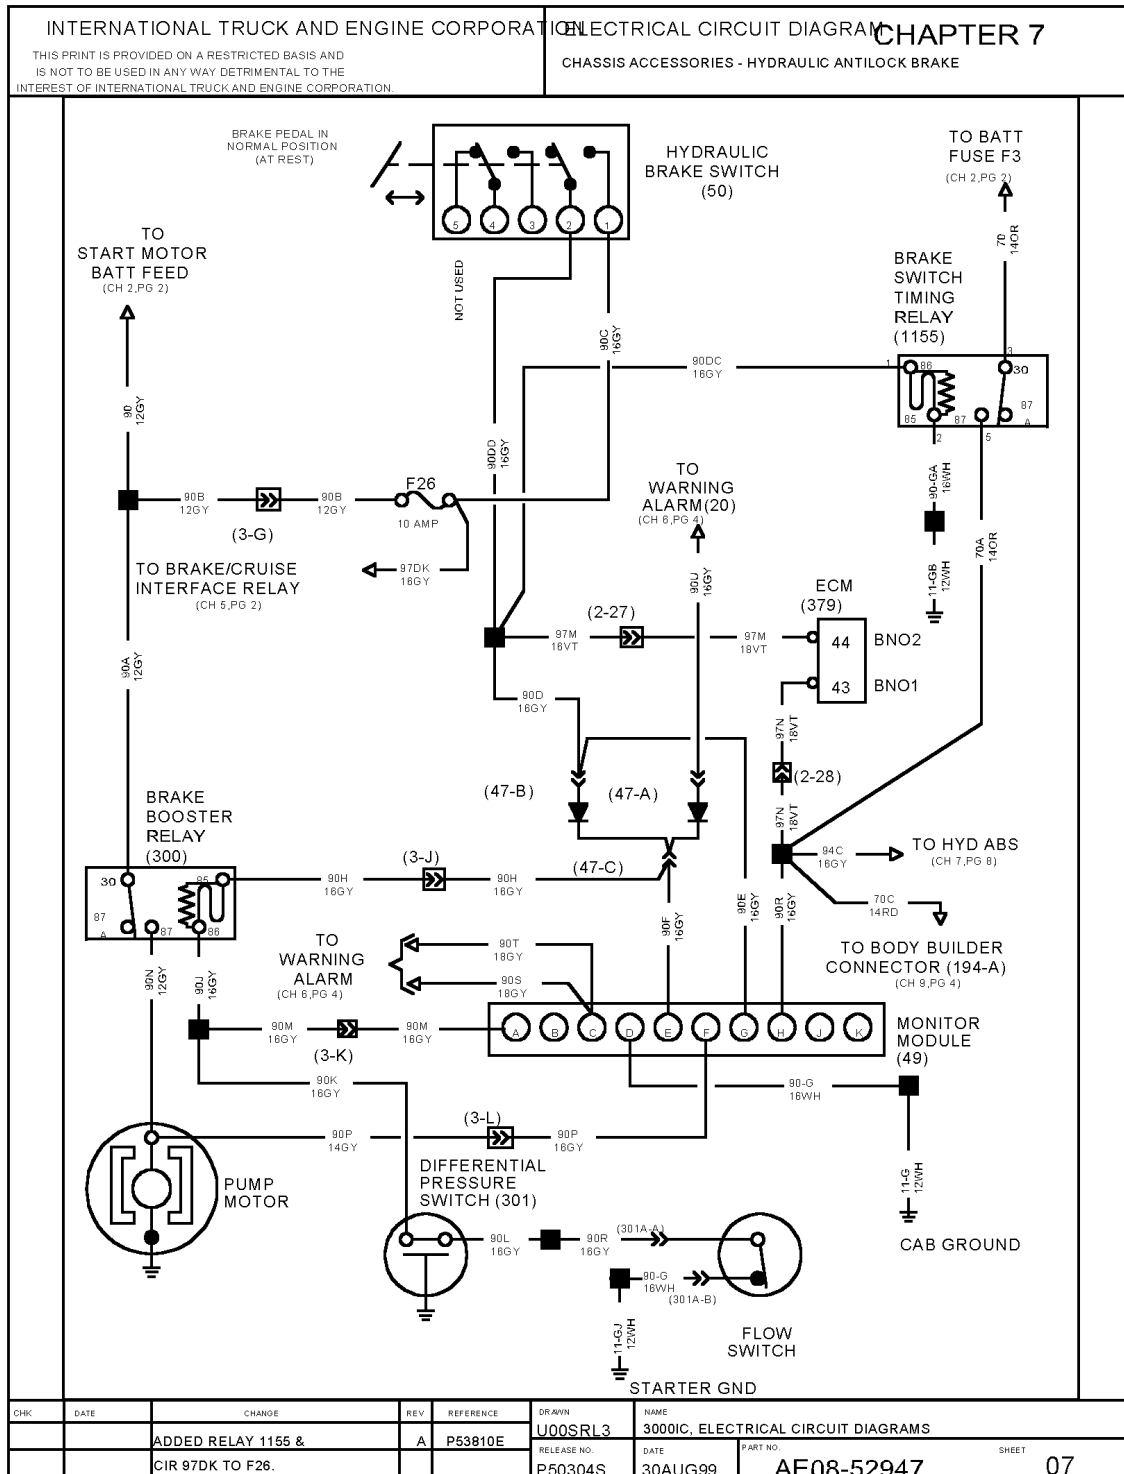

Figure 2 Brake Switch Circuit After Revision
4. Re-install circuit 90C into connector cavity 1 and circuit 90DD into cavity 2 (Figure 2).